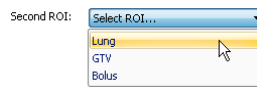

Figure 227 – Selecting the second ROI for algebra
4. Select the second ROI in the drop-down list that is displayed by pushing the **Second ROI** button (see Figure 227).